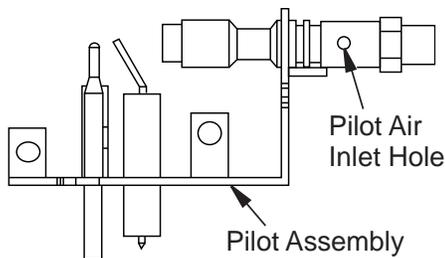

Figure 47 - Pilot Inlet Air Hole (Your pilot may vary from pilot shown)
2. Inspect burner, pilot and primary air inlet holes on orifice holder for dust and dirt (see **Figure 47**).